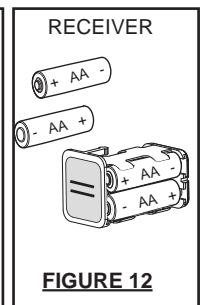

FIGURE 12
2.2 Place 4 "AA" batteries into the battery compartment of the receiver. **FIGURE 12**
Receiver: Slide the switch to OFF. Press the battery compartment slightly into the receiver and release enabling the battery compartment to pop out. After removing the original batteries, wait at least 1 minute before replacing with fresh batteries. (Follow the programming instructions previously stated) **FIGURE 12**